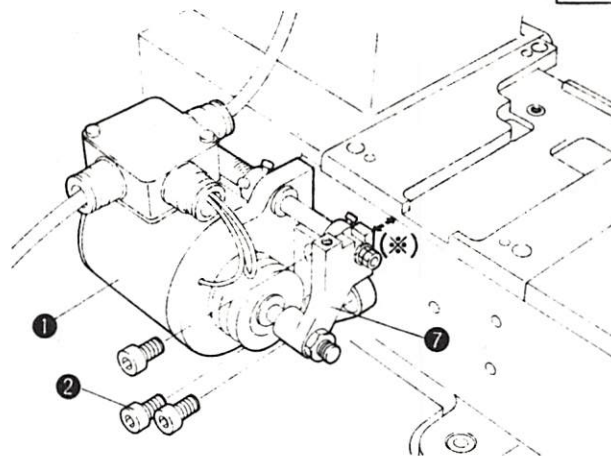

Fig. 17
SOLENOID (UNIT) SETTING (Figs. 17, 18)
1. Refer to Fig. 17 and set ① and ② in sequence so that the upper face of Crank ⑦ should level with the upper face of the bed horizontally. (*)